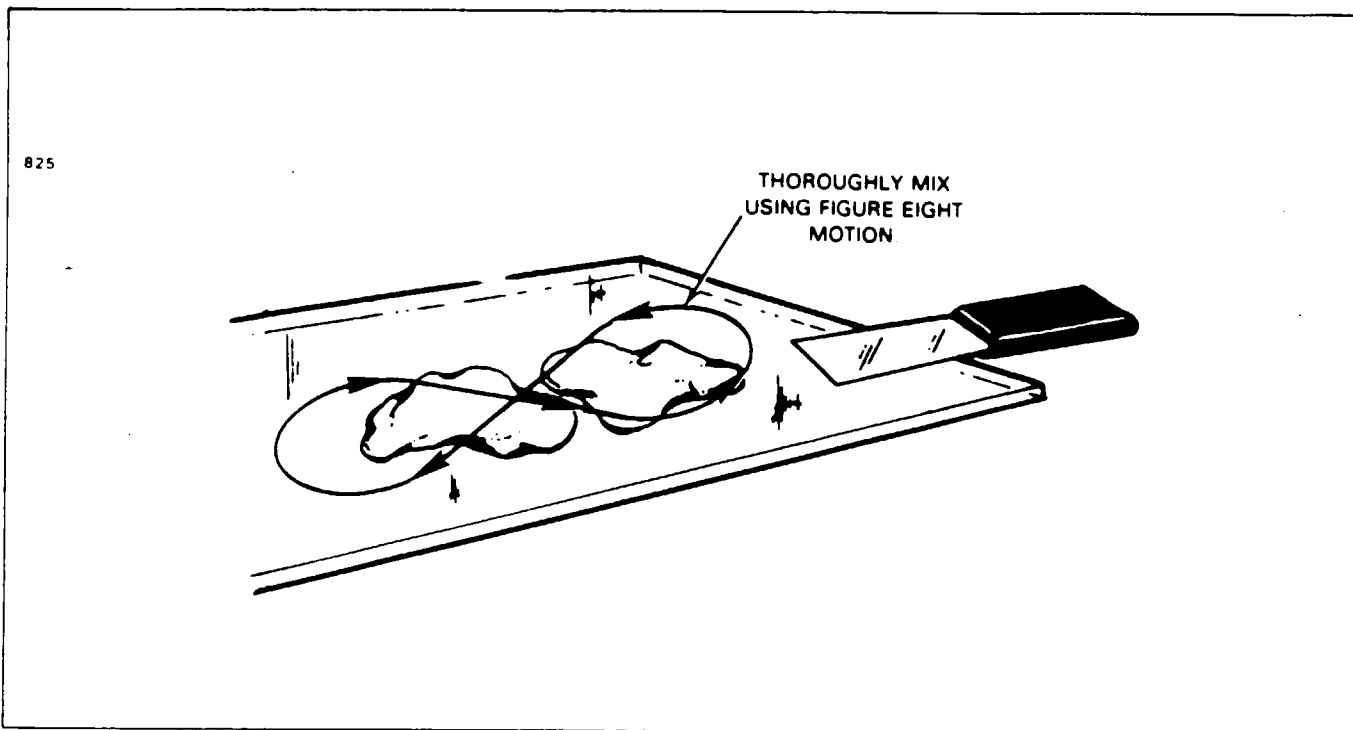

Figure 51-5. Mixing of Epoxy Patching Compound
F. The patching compound is mixed in equal portions on a hard flat surface using a figure eight motion. The damaged area is cleaned with perchlorethylene or VM & P Naphtha prior to applying the compound. (Refer to Figure 51-5.)